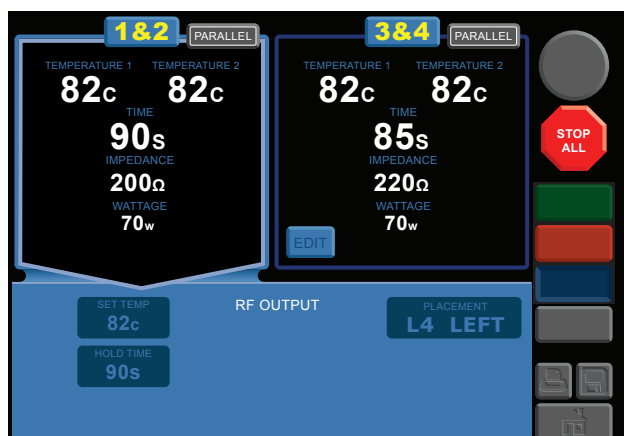

Figure 26 RF Output Screen THERMAL mode - PARALLEL BIPOLAR ACTIVE
2. Observe the electrode identifier numbers merge into one procedure tab indicating the two electrodes are operating in a parallel bipolar mode (see figures 26 and 27).